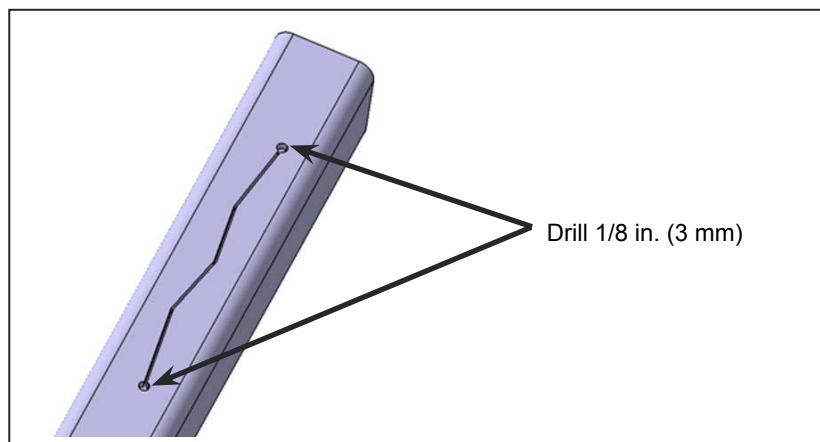

Figure 6 - Typical Crack Drilled at Each End
- 1.7. Drill a stop hole 1/8 in. (3 mm) in diameter at both ends of the crack. If the crack ends at the edge of structural part do not drill this end. See Figure 6.